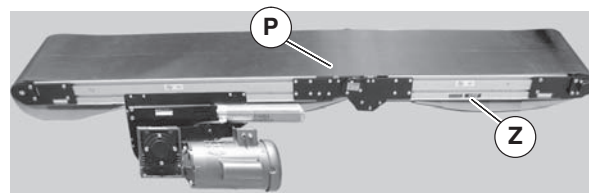

Figure 9
5. Slide belt (Figure 9, item P) over assembled conveyor sections (Z).